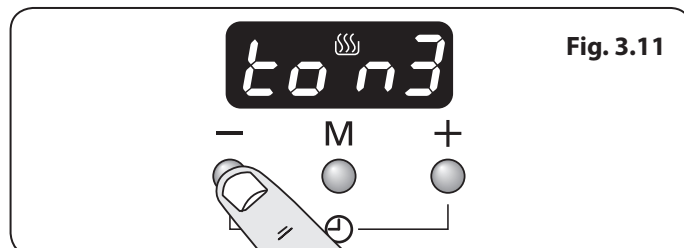

Fig. 3.11
- To select the tone press the [-] button until desired tone is reached (**Fig. 3.11**).